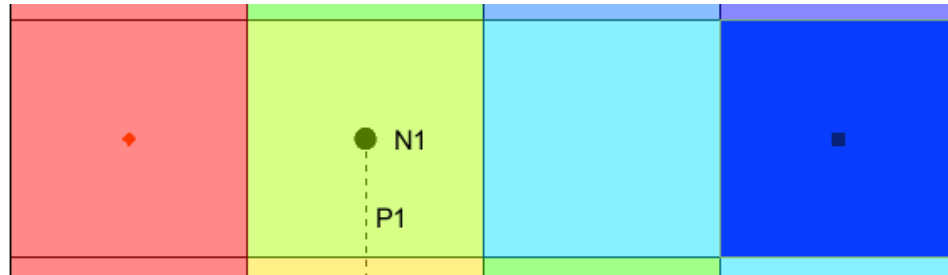

Figure 11 The well has appeared in cell 2,4,1
- A well boundary condition symbol should appear in the cell (Figure 11).